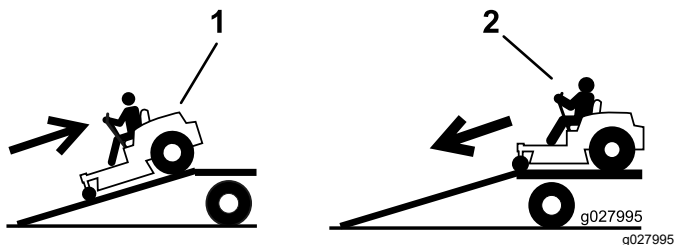

Figure 28
4. Back the machine up the ramp (Figure 28).
2. Drive the machine forward down the ramp (Figure 28).